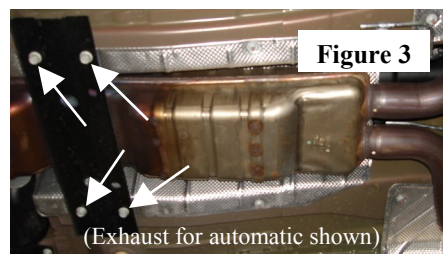

Figure 3
2. Remove (4) cross-brace support bolts using 15mm socket (figure 3). Place hardware to the side.